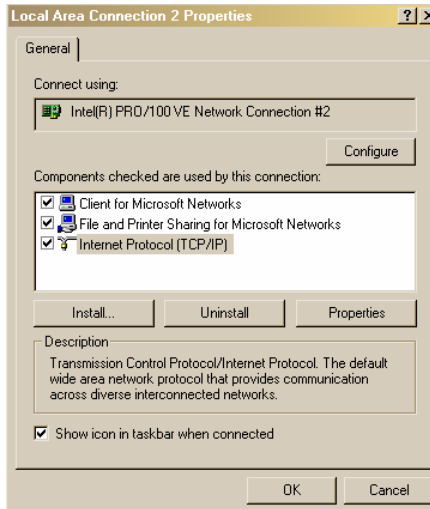

Figure 21: Local Area Connection Properties Window
5. Select the Internet Protocol (TCP/IP) and click the **Properties** Button (see Figure 21).